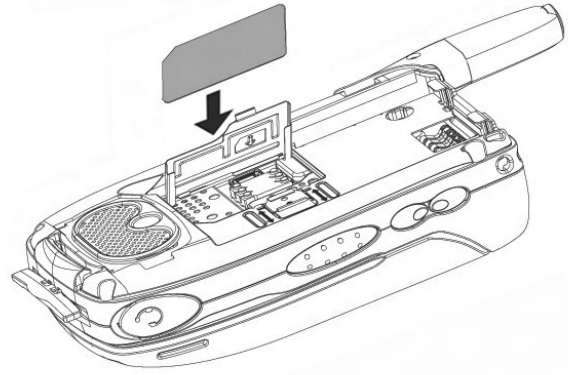

Figure 1-4. Inserting a SIM Card
**To insert a SIM card (Figure 1-4):**
2. Carefully slide the SIM card into the holder (see Figure 1-4). Position SIM card as shown.